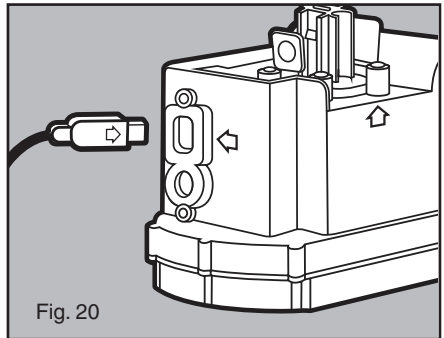

Fig. 20
21. Align the yellow arrow on the signal cable plug with the yellow arrow on the motor module receptacle (see figure 20)